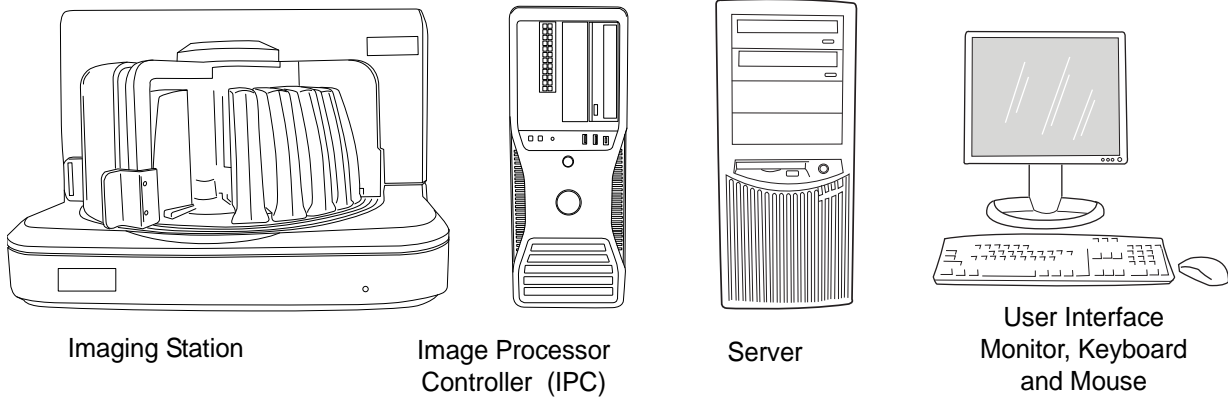

Figure 1-1 The ThinPrep Imaging Station, Image Processor Controller, Server and User Interface
- **Imaging Station:** images the slides. (Figure 1-1.)